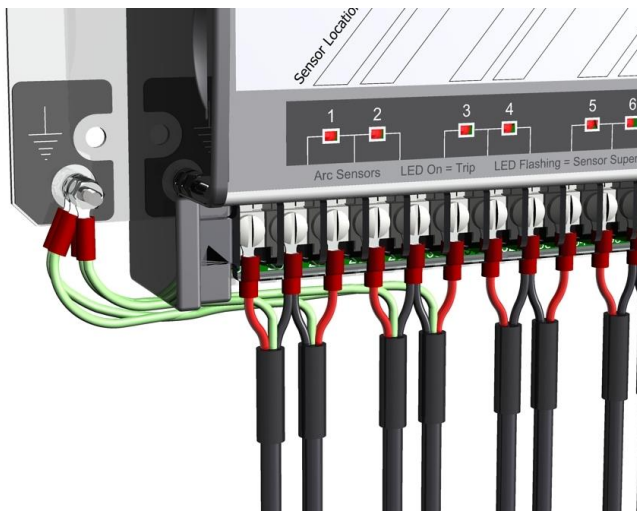

Figure 36: 1S30 sensor wiring using shielded cables
M3 earth studs with nuts and lock washers are provided on the 1S24 chassis in two (2) positions - one to the left of terminal 1 and one to the right of terminal 24 - to allow connection of the optional 1S30 sensor cable shields. Refer to figure 36 for connection details.